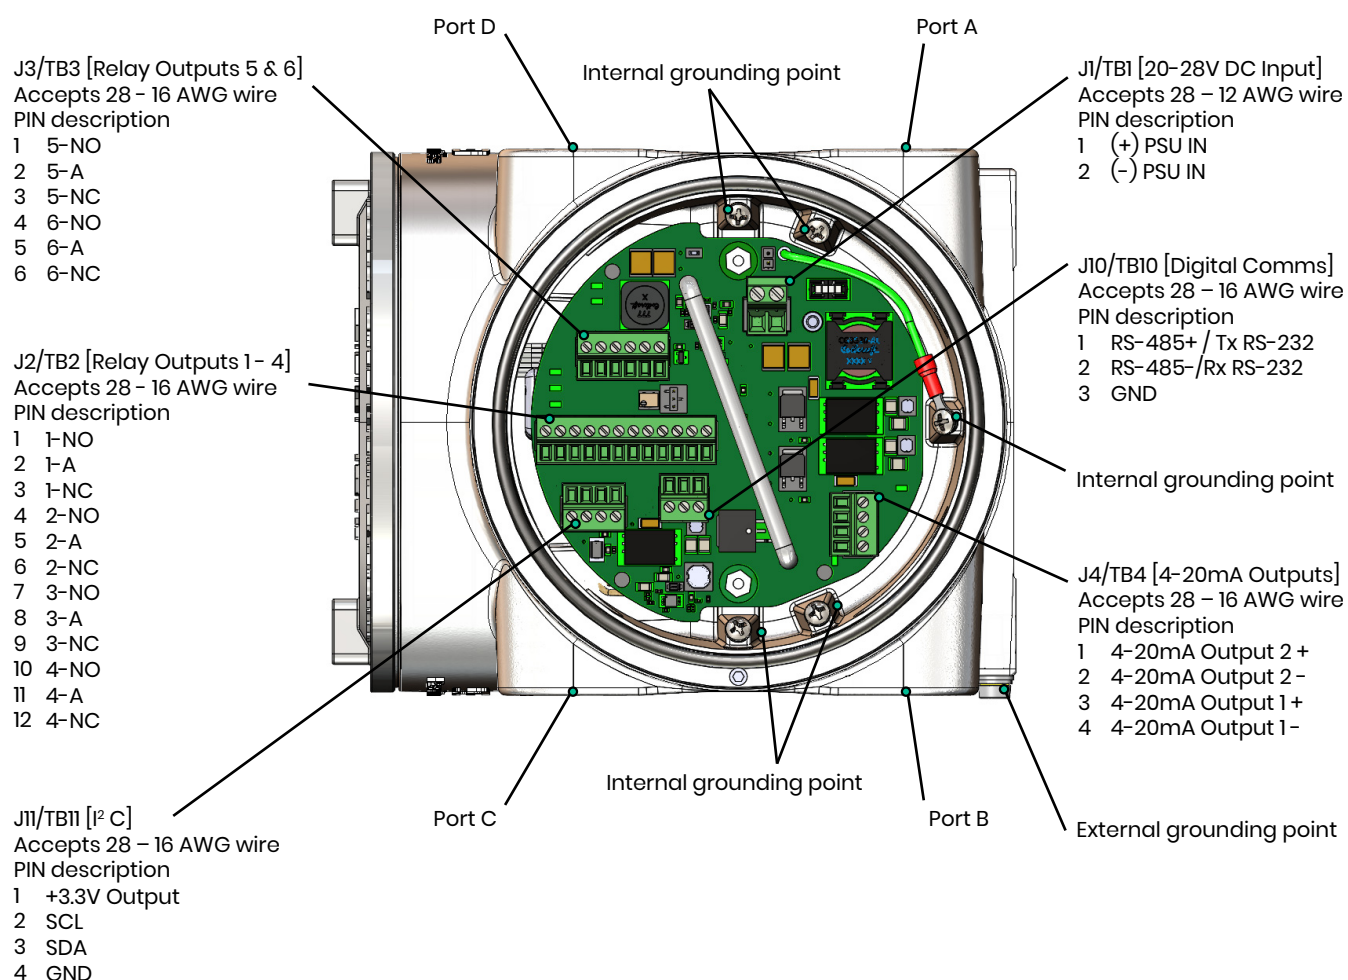

Figure 9: Wiring Diagram
Refer to *Figure 9* for port location and *Table 1* for PSU cable length requirements:
The 24 VDC power input, 4-20 mA analog outputs, relay outputs and digital comms outputs wiring connections are made to terminal blocks TB1, TB2, TB3, TB4, and TB10 inside the XMTCpro enclosure (see *Figure 9*). To access this terminal block, loosen the locking screw and remove the cover from the analyzer. Then, refer to *Figure 9* for the location and pin designations of terminal blocks TB1, TB2, TB3, TB4, and TB10.
4. Connect the appropriate leads per the wiring diagram in *Figure 9*.